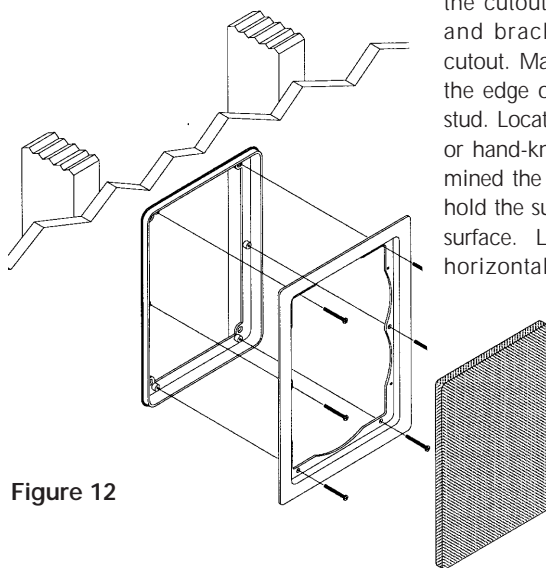

Figure 12
7. Attach the frame to the bracket by screwing the frame to the bracket using the supplied screws. Do not overtighten the screws, this will distort the frame and the grilles will not fit (this is not permanent, just loosen the screws and the grille will pop in). The screws should pull the frame and bracket together (sandwiching the drywall) so that the frame is absolutely flush with the wall surface. There should be no gaps between the wall and the frame (**See Figure 12**).